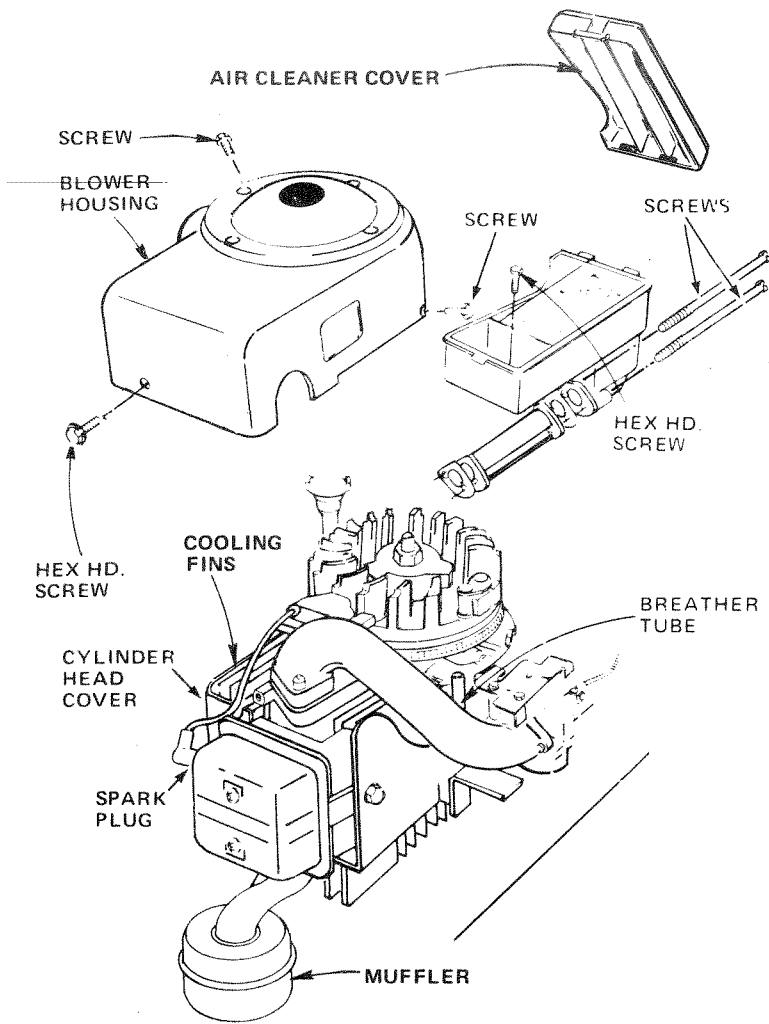

FIGURE 29
Several minutes after stopping Engine, check Engine Oil Level with Tractor on level ground. Remove and wipe Dipstick clean (Fig. 29), screw it in tight for a few seconds, remove slowly and read Oil level. If necessary, add Oil until "L" mark is reached. DO NOT OVERFILL.
- a. Snap Cover off Air Cleaner (Fig. 29). Remove Hex Head Screw from inside Air Cleaner. Remove two Slotted Head Screws from rear of Air Cleaner. Pull Air Cleaner off.
NOTE: PRESS BREATHER TUBE INTO BOTTOM OF AIR CLEANER (FIG. 29).